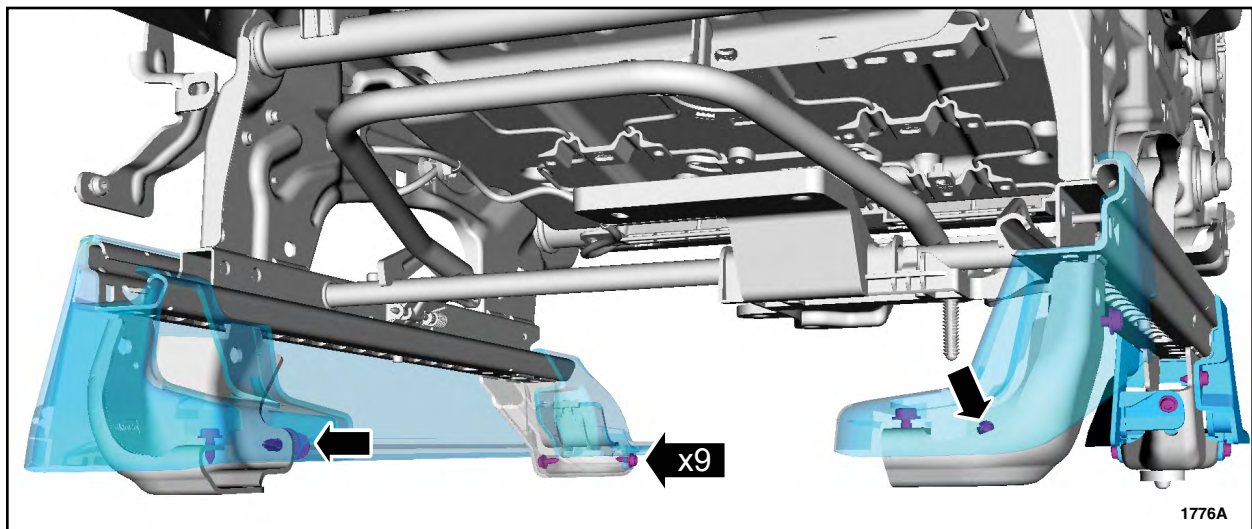

FIGURE 2
B. Transfer both the inboard and outboard seat track shields. See Figure 2.